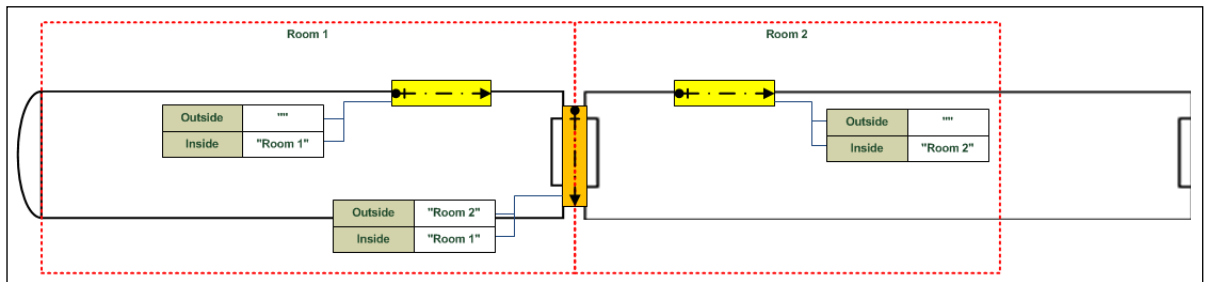

Figure 56: Names for inner and outer side of doors when having two rooms, an interior door and two outer doors
- Set the **Maximum Coverage** (values 1...3 in version 1.7.0 and higher; values 1...2 in older versions). When a person is passing a door, several sensors may register a counting event at the same time. To avoid double counting, adjacent sensors can be grouped by the maximum coverage function to build a logical sensor. All possible combinations of adjacent sensors are considered, see Figure 56.